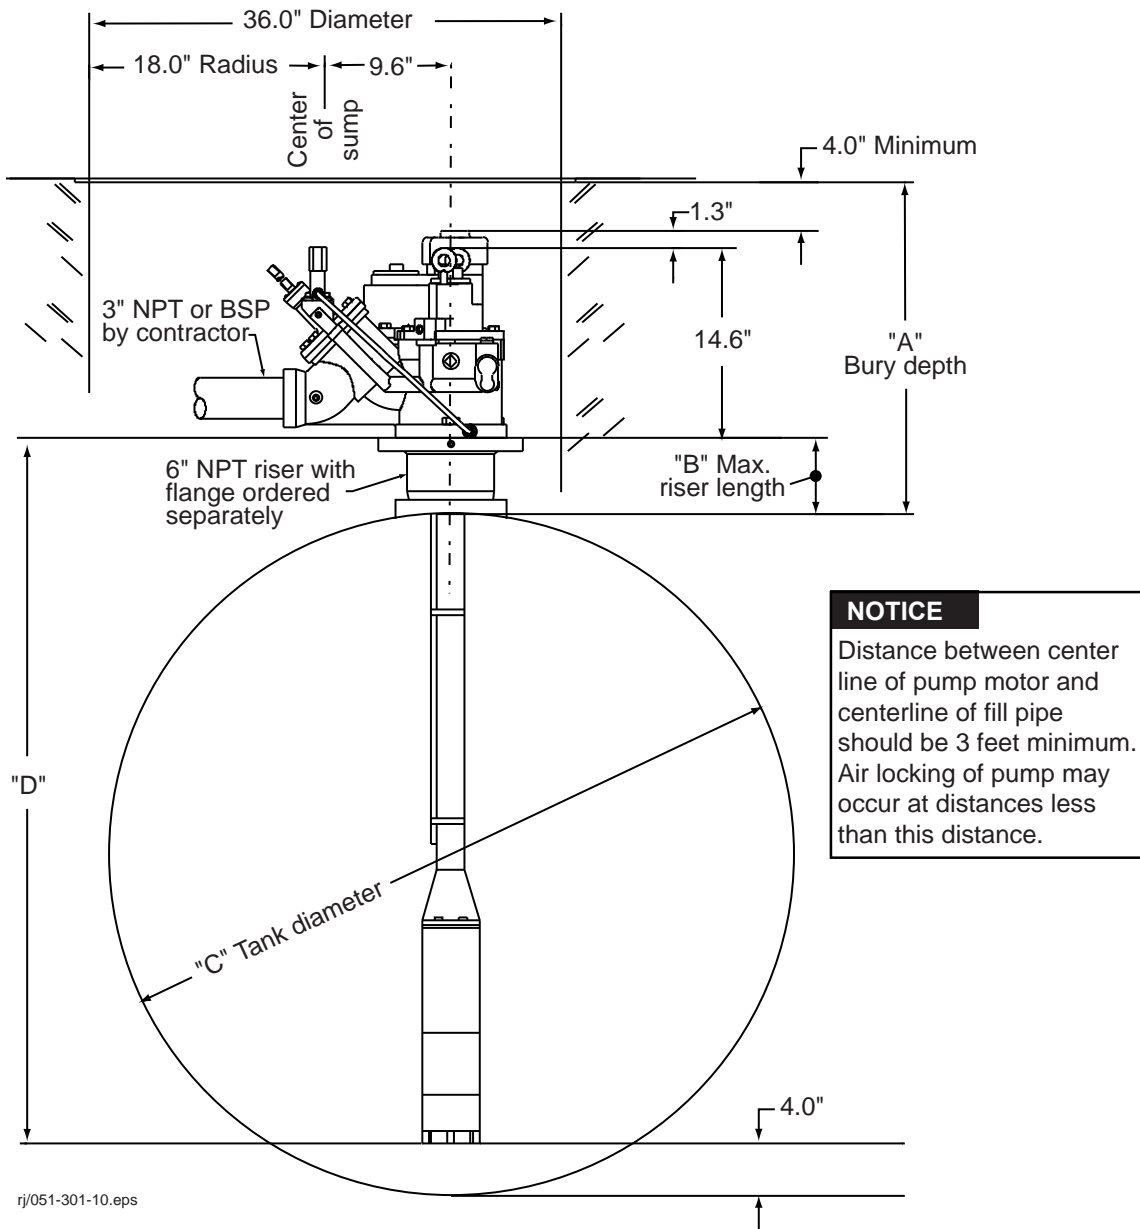

Figure 8.
4. After the above checks have been made, the backfill can be completed and the manholes installed as shown in Figure 8.